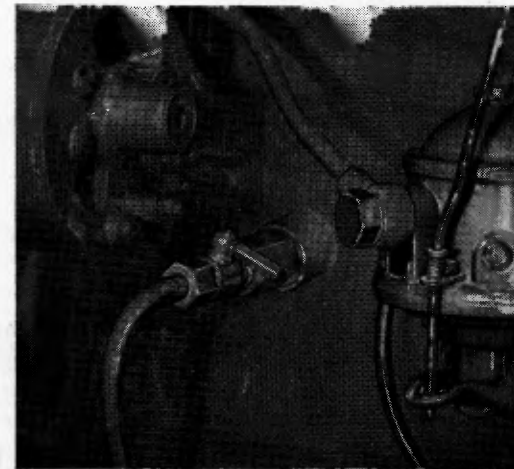

Fig. 15
- (1) With the engine hot open the water drain taps situated on the port side of the cylinder block and the rear end of the exhaust manifold (see Figs. 15 and 16).
- (1) With the engine hot, close the sea cock and completely drain the cooling system by opening the drain taps situated on the port side of the cylinder block and the rear end of the exhaust manifold (see Figs. 15 and 16).